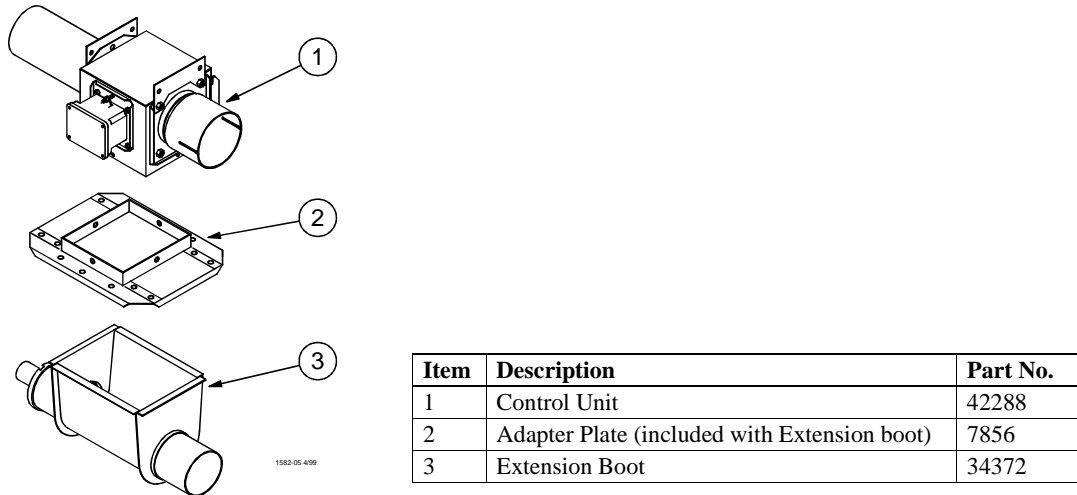

Figure 4. Assembling Extension Boot, Adapter Plate, and Control Unit (inline assembly shown)
2. Assemble Extension Boot to Adapter Plate and Control Unit in desired inline, right hand, or left hand position, as shown in **Figure 4**. The Cover Weldment is shipped assembled for an inline installation. Reposition the seals and cover plates as needed.